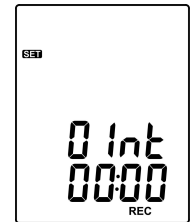

Fig.9
- (1) Press the  or  button to set minute or second. (see Fig.9)
- (2) Press the  /  button to increase / decrease value.